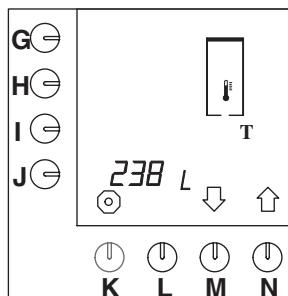

Fig. 29 Total counter hot water system
- The total counter appears on the display. The total number of litres of hot water that have been made during the lifetime of the machine can be read from the display (fig. 29).